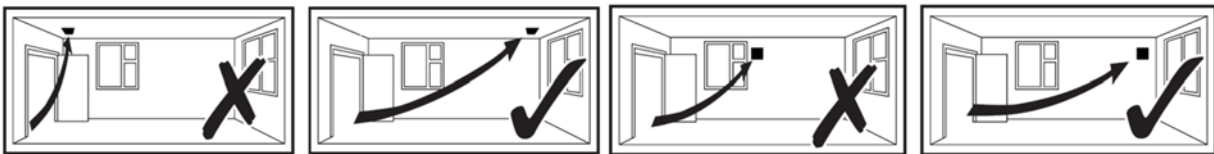

Fig.1: 412442 – X5 S
1. Select and follow the appropriate wiring diagram. (Fig. 1, 2 or 3)
See Fig 1, 2, 3, 4, 5, & 6
412442 - X5 S – Single speed fan. Controlled by remote switch (e.g light switch or auto sensor) Fig.1.